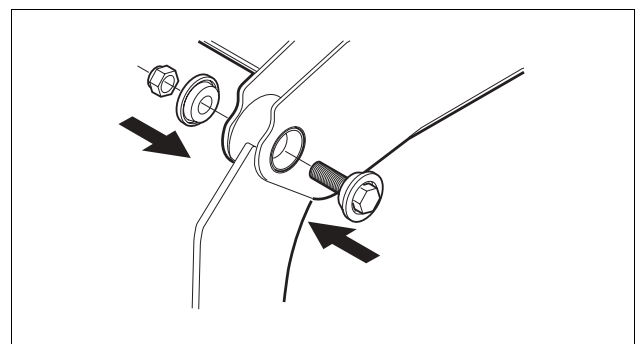

Fig. 46 Insert the washer, the screw and the nut
5. Insert one of the washers and the capscrew. *See Fig. 46.*
6. Insert the other washer and the nut. *See Fig. 46.*